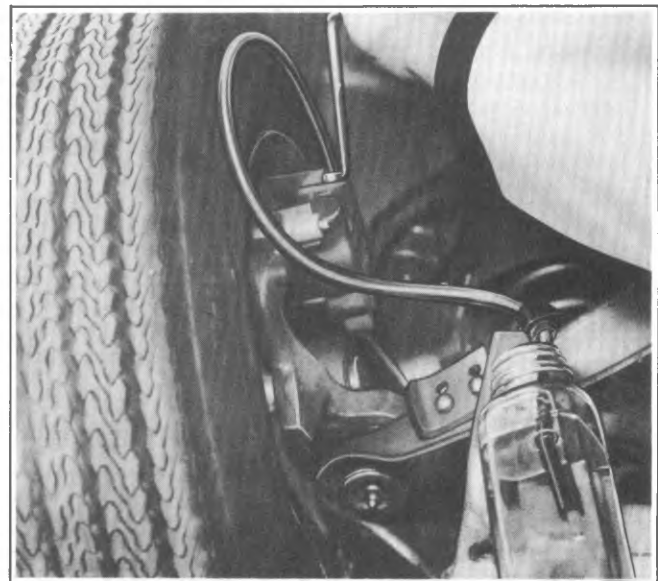

Fig. 5-1--Bleeding Wheel Cylinder
2. With the proper size box end wrench or Tool J-21472 over bleeder valve, attach bleeder tube to valve and allow tube to hang submerged in brake fluid in a clean glass jar (fig. 5-1).